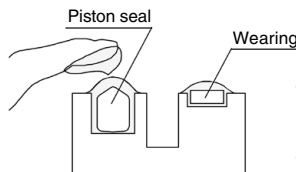
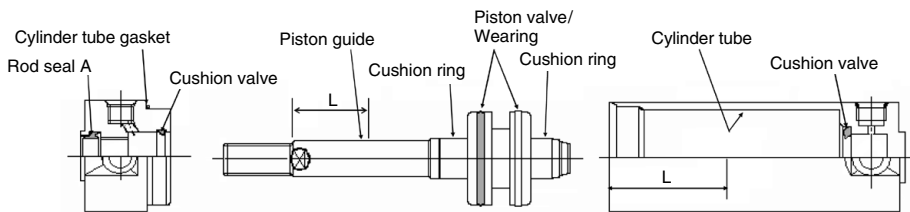

Fig. 7 Piston seal
Fig. 9 Grease application points  $L = \frac{\text{STROKE}}{2}$  or 100 mm and more
- ③⑨ Piston seal: Rub grease into the seal groove and outer circumference of the seal. (Fig. 7)
- ③⑩ Cylinder tube gasket: Lightly apply grease.
- Cylinder component parts: Apply grease to each component parts of the cylinder in Figure 9.